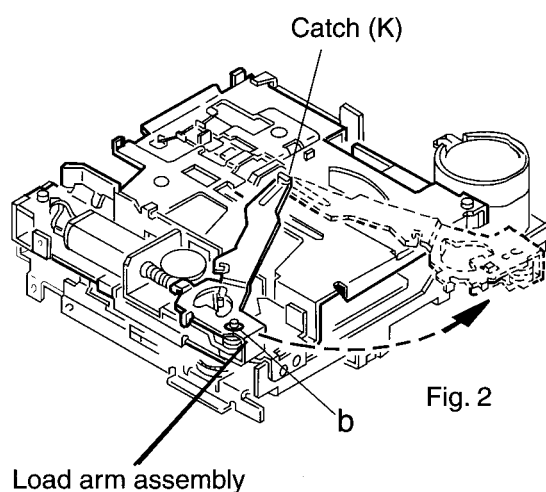

Fig. 2
■ Removing the Load Arm Assembly (See Fig. 2)